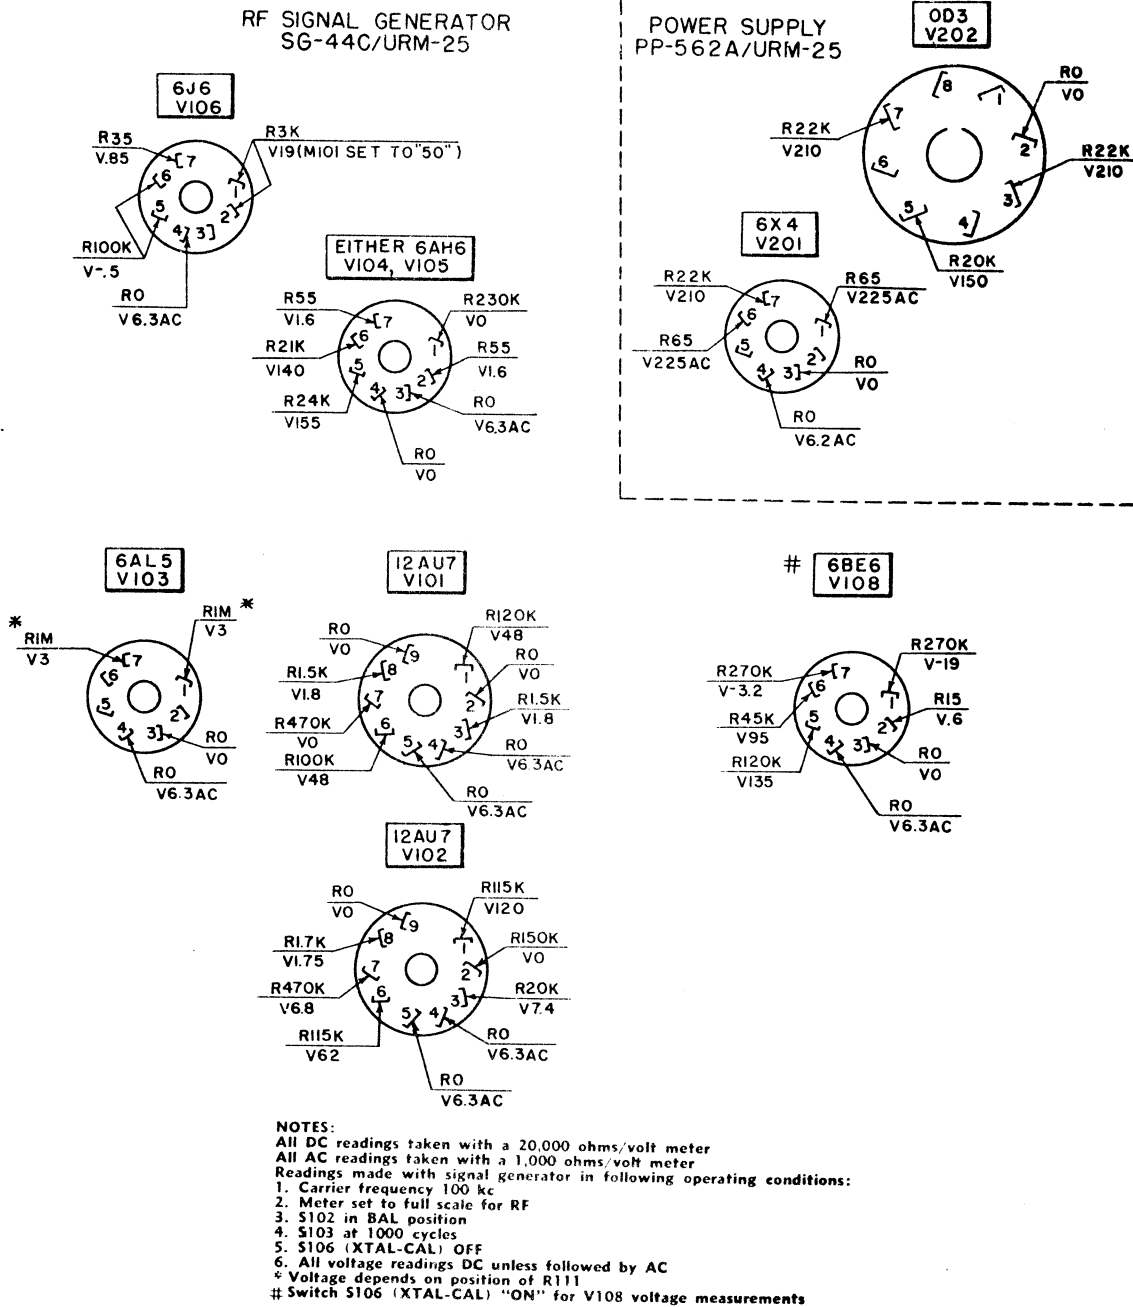

Figure 6-11. Signal Generator Voltage and Resistance Chart.
(a) As a further aid in maintenance work figure 6-11 SIGNAL GENERATOR VOLTAGE AND RESISTANCE CHART will be found near the end of this section. This chart lists diagrammatically, the voltage and resistances measured from all tube socket connections to ground.
<p>1. VOLTMETER BRIDGE CIRCUIT (V-101).</p> <p>a. INOPERATIVE.</p>	<p>If preliminary tests have indicated that the voltmeter bridge circuit (V-101) is inoperative, remove the RF signal Generator Unit SG-44C/URM-25 from the cabinet and proceed with the following tests (see Section 6, par. 4a).</p> <p>(1) Test voltage of bridge tube V-101 with the POWER switch (S-101) ON and METER READS switch (S-102) in BAL position.</p> <p>Heater Voltage — 6.3v AC  Plate Voltage (V-101A) — 36.5v DC (± 5V)  Plate Voltage (V-101B) — 36.5v DC (± 5V)  Grid Voltage (V-101B) — 0  Grid Voltage (V-101B) — 0  Cathode Voltage (V-101A) — 2v DC  Cathode Voltage (V-101B) — 2v DC</p> <p style="text-align: center;">NOTE</p> <p>DC voltages measured from tube socket connections to ground with a 20,000 ohms per volt voltmeter.</p> <p>(2) If voltages are correct, disconnect power cable and make circuit continuity check with an ohmmeter until the defect is located (see figure 6-11).</p>
<p>4. BUFFER- AMPLIFIER INOPERATIVE (V-104, V-105).</p>	<p>a. If preliminary tests have indicated that the buffer-amplifier is inoperative, remove the signal generator from the cabinet and proceed with the following tests (see Section 6, par. 4).</p> <p>b. Test DC voltages with the tubes (V-104, V-105) in the socket; M-101 set for "50" and MOD SELECTOR switch (S-103) OFF (see figure 6-11). Carrier frequency should be set to 100 kc.</p> <p>Heater Voltage—6.3v AC Plate Voltage—155v DC Cathode Voltage—1.6v DC (Adjust to this value with R-113) Control Grid Voltage—0 Screen Grid voltage—140v DC</p> <p>DC measurements made from socket terminals to chassis with a 20,000 ohms per volt voltmeter.</p> <p>c. If the voltages are correct, but the buffer-amplifier is still inoperative, make a circuit continuity test with an ohmmeter until the defect is located.</p> <p style="text-align: center;">NOTE</p> <p>It is a good idea to check the tube with a tube checker even though voltage checks are correct. Change in tube characteristics (i.e. transconductance etc.) may not show up in voltage checks but may actually be the source of trouble.</p>